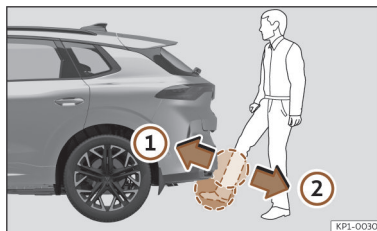

Fig. 85 Rear lid with sensor-controlled opening (Easy Open).
- With a brisk movement, bring your foot and lower leg as close as you can to the bumper. The lower part of the leg needs to be close to the upper sensor area and your foot to the lower sensor area >>> **Fig. 85 ①**.
- Quickly remove your foot and lower leg from the sensor areas >>> **Fig. 85 ②**. The rear lid will open automatically.